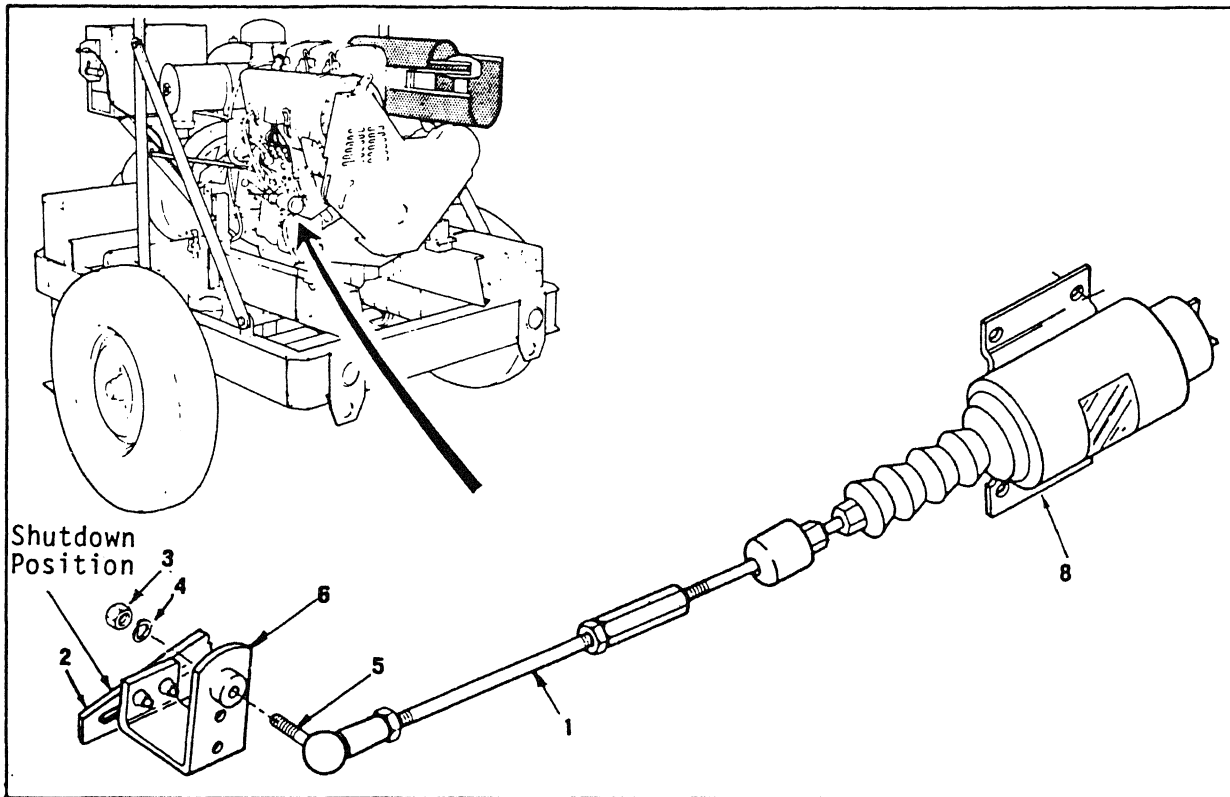

Figure 4-39. Shutdown Solenoid Rod, Disconnecting/Reconnecting
- g. On Models 13220E1070, 13225E9200 (97403), and LC 350GPM (36024), disconnect fuel shutdown solenoid rod (1, Figure 4-39) from injection pump fuel shutdown lever (2), by removing nut (3) and washer (4). Pull rod end (5) away from lever (6). Press down on shutdown lever (2) and wire it in this position, which is the full shutdown position.
- t. On Models 13220E1070, 13225E9200, and LC 350GPM install fuel shutdown solenoid rod end (5, figure 4-39) to injection pump fuel shutdown lever (6). Secure with nut (3) and washer (4).